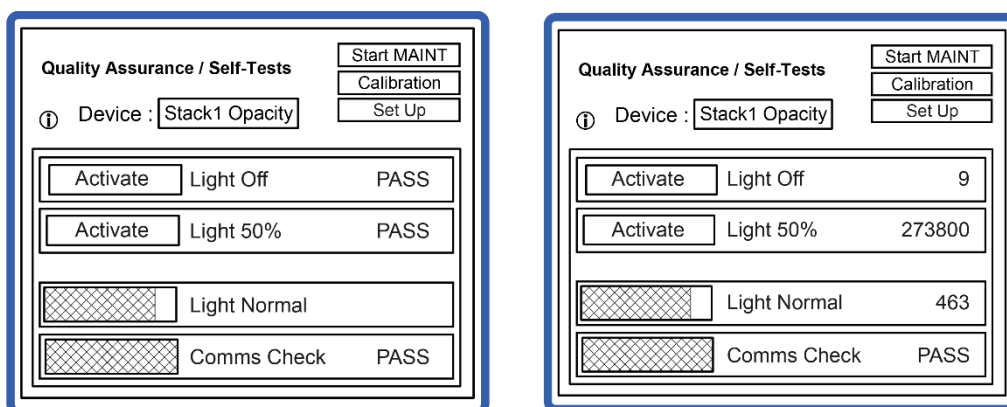

Figure 23: Dynamic Opacity sensor test results (alternating).
The numerical values displayed on the 'Dust' (Dynamic Opacity) QA/Self Tests page (see **Figure 23** below) are all measures of raw scintillation counts. Raw scintillation is the *amount of light signal variation* seen at the Receiver due to the dust flow.
1. Open the **QA/Self-Tests** menu screen, then select **Device | Stackn Dust** to display the self-test results for a sensor (**Figure 23**).
Example: referring to **Figure 23** above, the result shows a Light Normal scintillation count of 463 just before the test which is reduced to 9 during the test.
Example: referring to **Figure 23** above, the result shows a Light Normal scintillation count of 463 just before the test, which increases to 273,800 during the test.